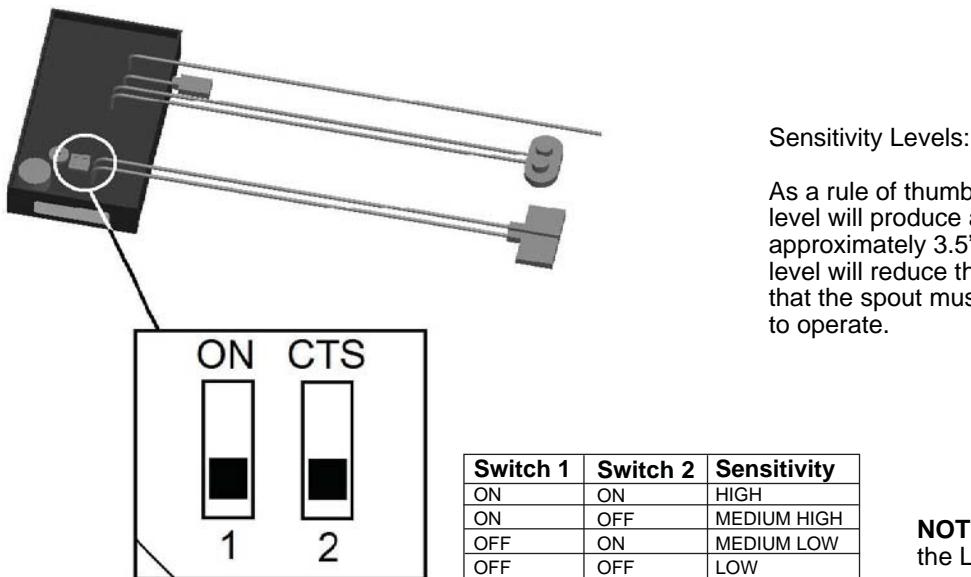

Fig. 7
2. Locate the sensitivity selector switch located on the driver board (Fig. 7).
3. Using a finger or small screwdriver, gently set the sensitivity level one step up or down from its current position. Use the sensitivity selection chart (Fig. 7) to ensure the correct setting is chosen.